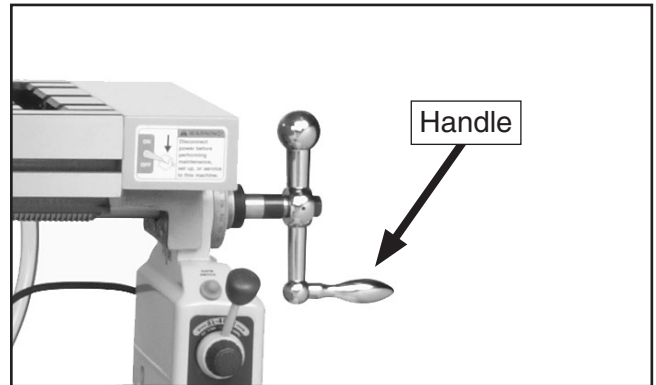

Figure 14. Handle installed on ball handle.
5. Thread the remaining handles onto the three ball handles and use the 14mm wrench to fully tighten them (see **Figure 14**).